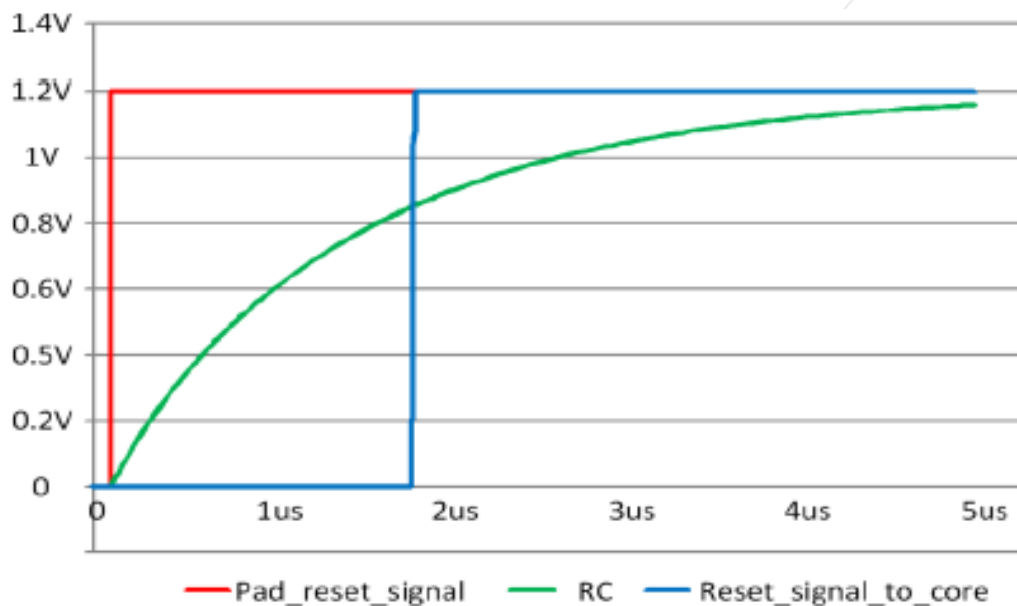

Figure 4. RST Pad Latency
The response is illustrated in the **Figure 4** which displays the voltage (V) on the vertical axis and the time (μ s) on the horizontal axis:.